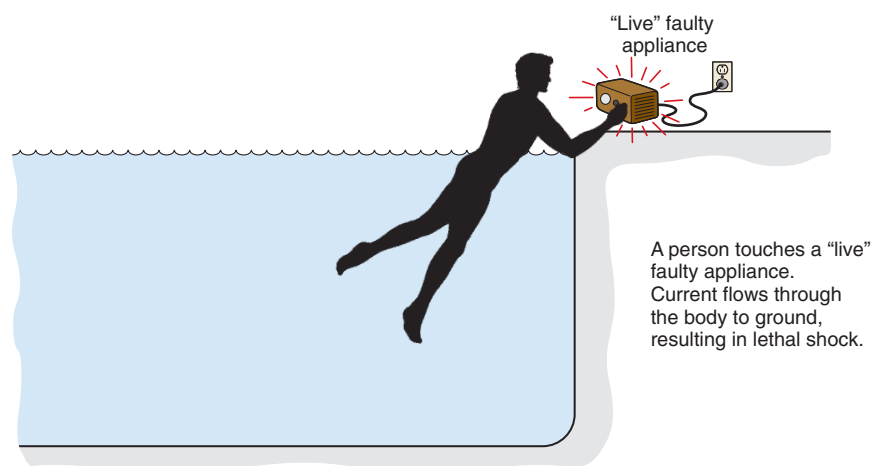

FIGURE 30-1 Touching a “live” faulty appliance can cause lethal shock. (Delmar/Cengage Learning)
1. *Direct contact:* An electrical shock can be deadly to someone in a pool who touches a “live” wire or touches an object such as a metal ladder, metal fence, metal parts of a luminaire, metal enclosures of electrical equipment, or appliances that have become “live” by an ungrounded conductor coming in contact with the metal enclosure or exposed metal parts of an appliance. Figure 30-1 shows a person in the water touching a faulty appliance.